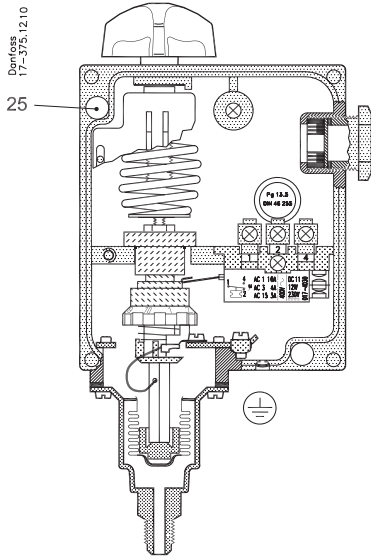

Fig. 1
The pressure switch is designed for fitting on the valve panel or the compressor. Use the mounting holes pos. 25, fig. 1. If the control is subjected to vibration, it should be mounted on a soft intermediate base.